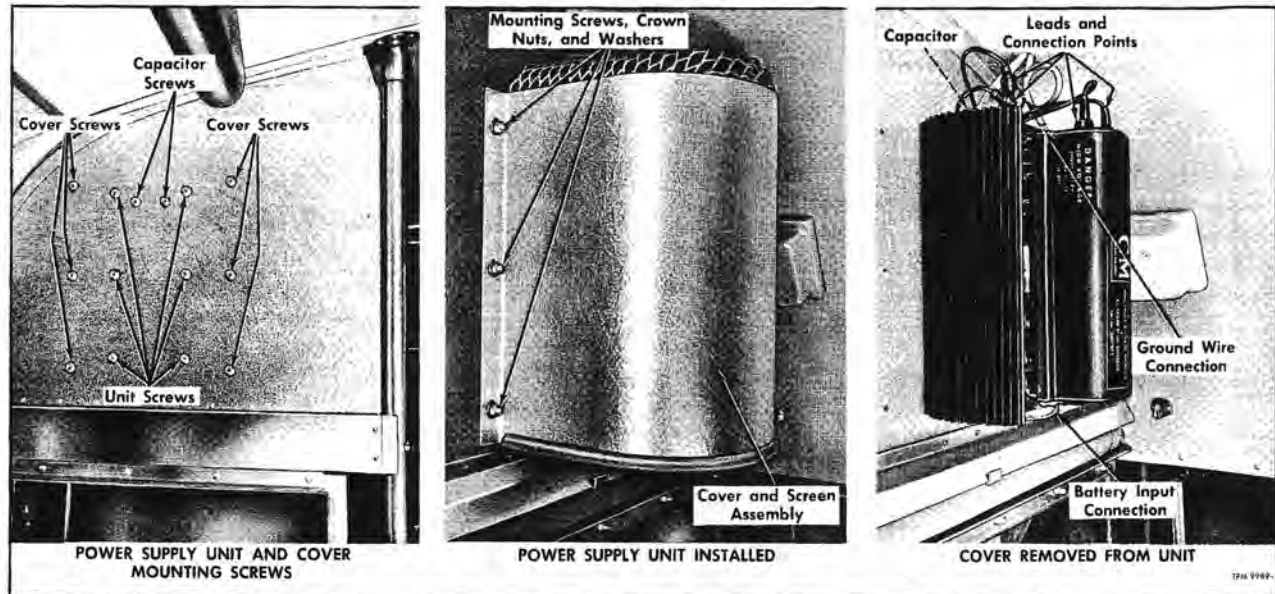
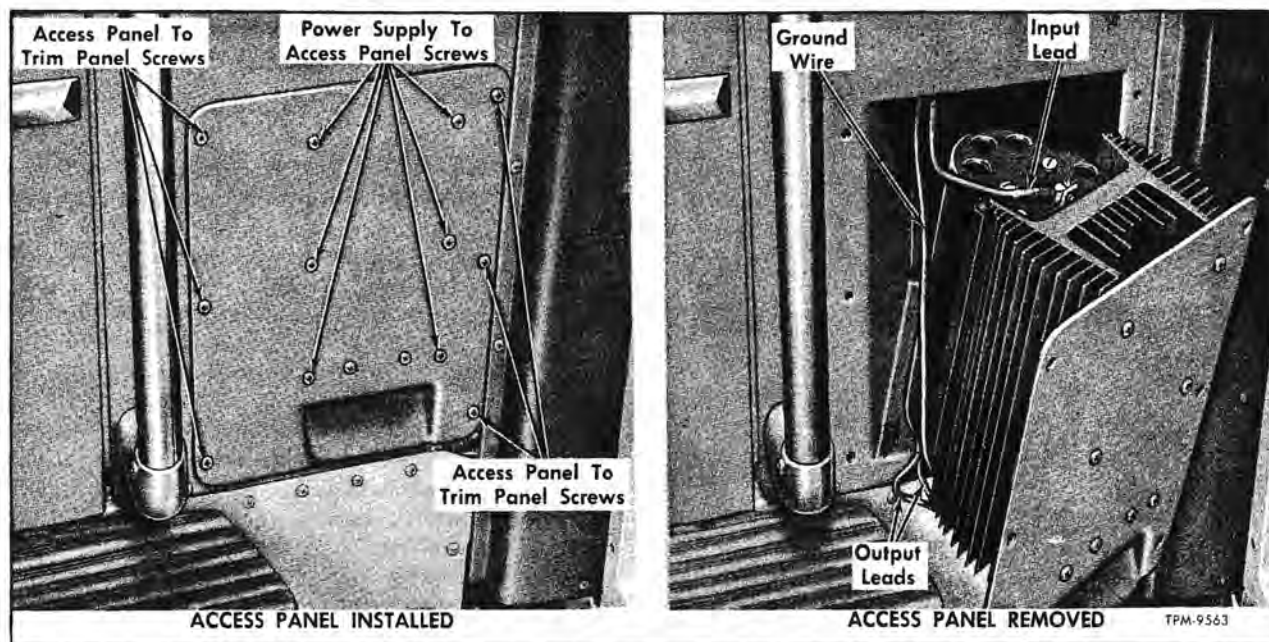

Figure 10—Power Supply Unit Installation Views (Standard)
Figure 11—Power Supply Unit Installation Views (Special Equipment)
The power supply on standard coaches is mounted on partition above and to rear of driver's seat (fig. 10), and is enclosed by a cover having screened opening at top and bottom. On some coaches,
as special equipment, the power supply unit is mounted on access panel at entrance door stepwell front trim panel (fig. 11). Refer to "Power Supply Unit" later in this section for test and repair procedures.
On standard coaches, power supply unit is mounted on partition above and to the rear of the driver's seat (fig. 10), and is enclosed by a cover having screened opening at top and bottom. On some coaches, as special equipment, the power supply unit is mounted behind closure panel at right side of dash (fig. 11).
**Mounted in Back of Driver (Fig. 10)**
3. Disconnect input lead at bottom of power supply unit. Right view of figure 10 identifies wiring connections at unit.
Mounted Behind Dash Panel (Fig. 11)